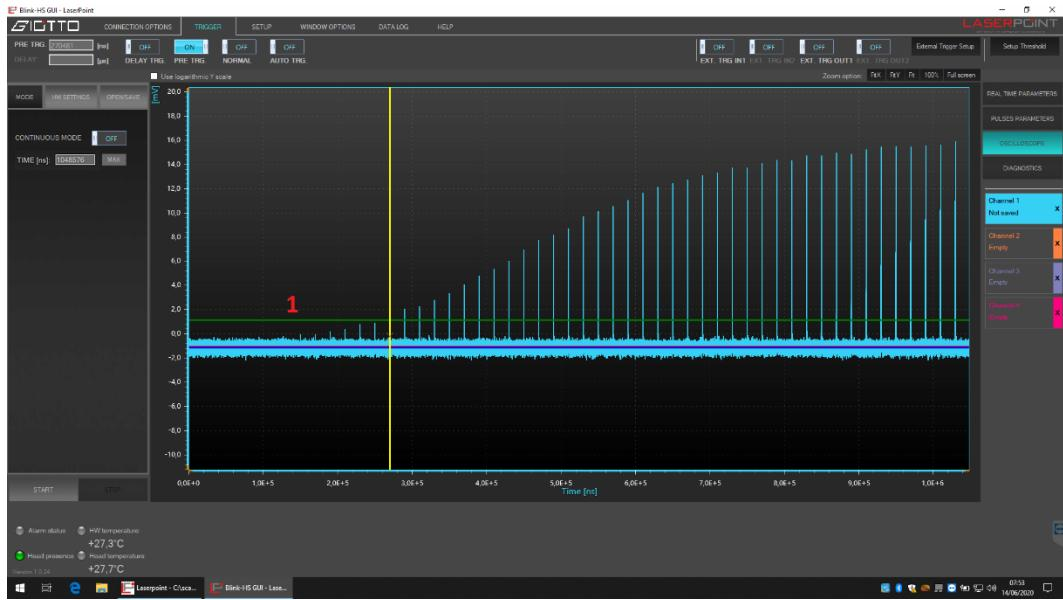

Figure 21
2. As soon as signals are greater then Trigger Start threshold (**1, fig.21**) the HSM meter displays the pulse train, including the portion of the spectrum from origin to the marker; in this example the ramp up of a fiber laser is detected